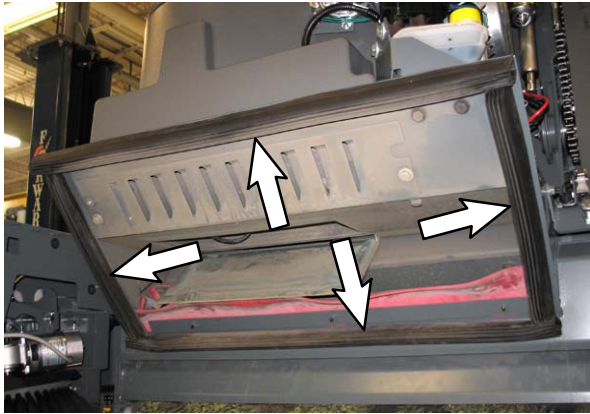

FIG. 1
1. Measure the existing hopper seals on the filter box frame and record the measurements. The new hopper seals will need to be cut to the same lengths. (Fig. 1)
2. Remove the existing hopper seals from the filter box frame. (Fig. 1)